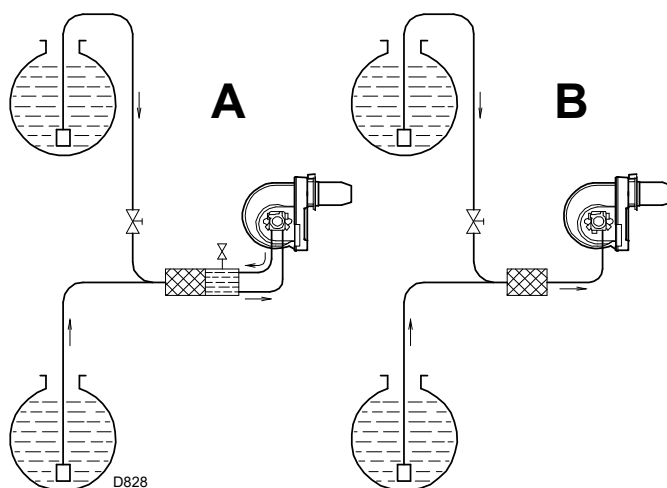

Fig. 16
- **Pump external by-pass (A, Fig. 16)** (recommended)
- **Pump internal by-pass (B, Fig. 16)**